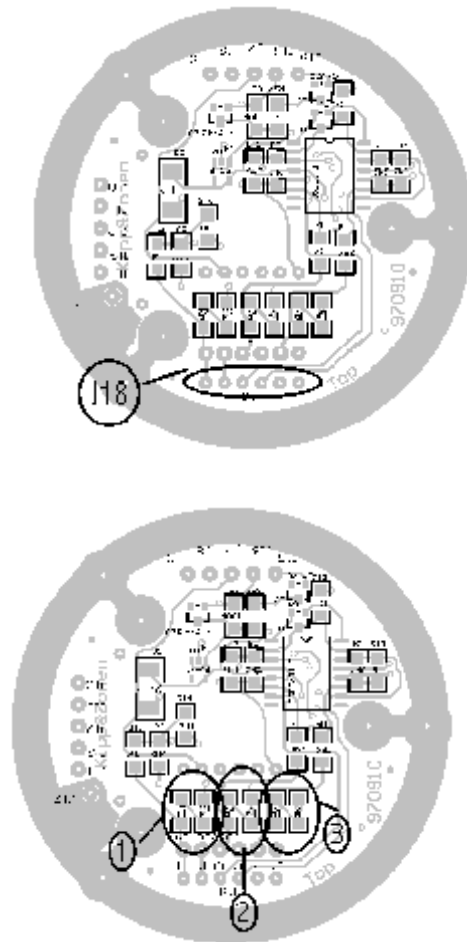

Figure 5 Position of the Calibration Resistors and Connector J18.
6. Open the instrument and inspect for any damage. If no obvious damage is visible, check the response of each of the detectors to light. With power supply to the CSD3 connected, measure the response of detector D1 to an ordinary desk lamp across pins J18-1 and J18-2. Similarly the response for detector D2 is measured across pins J18-5 and J18-2, and for D3 across pins J18-6 and J18-2. See Figure 5, below.